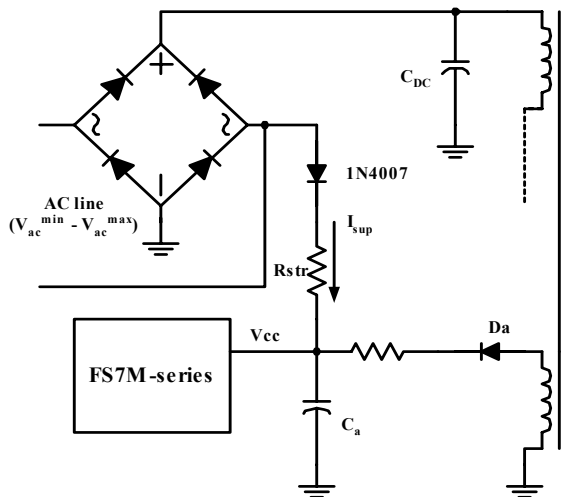
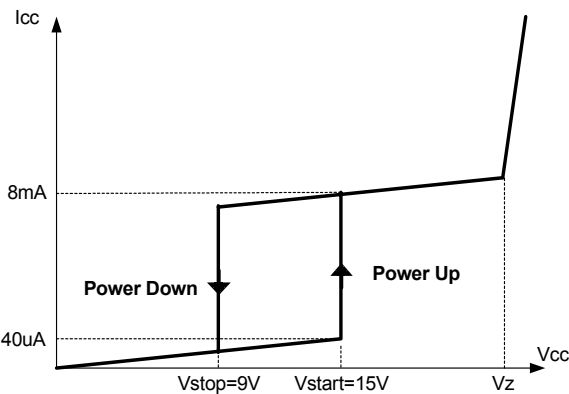

Figure 4. Startup circuit
Figure 5. Relation between operating supply current and Vcc voltage
1. Startup : Figure 4 shows the typical startup circuit and transformer auxiliary winding for FS7M-series. Because all the protections are implemented as latch mode, AC startup is typically used to provide a fast reset as shown in Figure 4. Before FPS begins switching operation, only startup current (typically 40uA) is consumed and the current supplied from the AC line charges the external capacitor (C_a) that is connected to the Vcc pin. When Vcc reaches start voltage of 15V (V_{START}), FPS begins switching, and the current consumed by FPS increases to 8mA. Then, FPS continues its normal switching operation and the power required for this device is supplied from the transformer auxiliary winding, unless Vcc drops below the stop voltage of 9V (V_{STOP}). To guarantee the stable operation of the control IC, Vcc has under voltage lockout (UVLO) with 6V hysteresis. Figure 5 shows the relation between the FPS operating supply current and the supply voltage (Vcc).